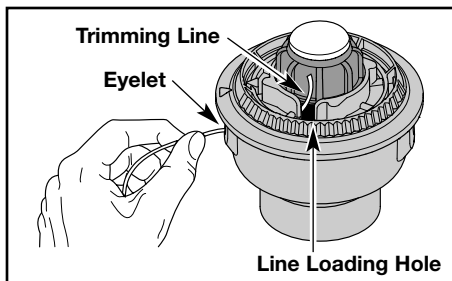

Fig. 14
NOTE: Before installing new trimming line onto the existing inner reel, remove any old line from the SpeedSpool by pulling the line out of the line loading or locking holes (Figs. 14 and 15).
2. Insert **10 feet (2.5 m) of .080 in (2.03 mm) trimming line** into one of the two eyelets and push it up through the line loading hole in the inner reel (Fig. 14). Do not bend the line when inserting it into the eyelet.